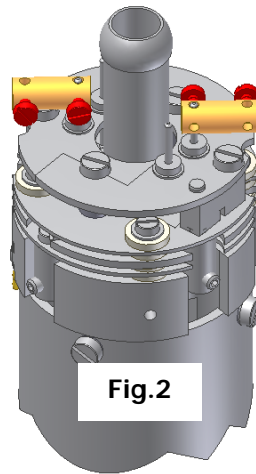

Fig.2
3. Hold the barrel connectors highlighted in orange firmly with your pliers and slacken the screws highlighted in red until the barrel connector can be removed from the filament plate and the connecting lead, see Fig.2.